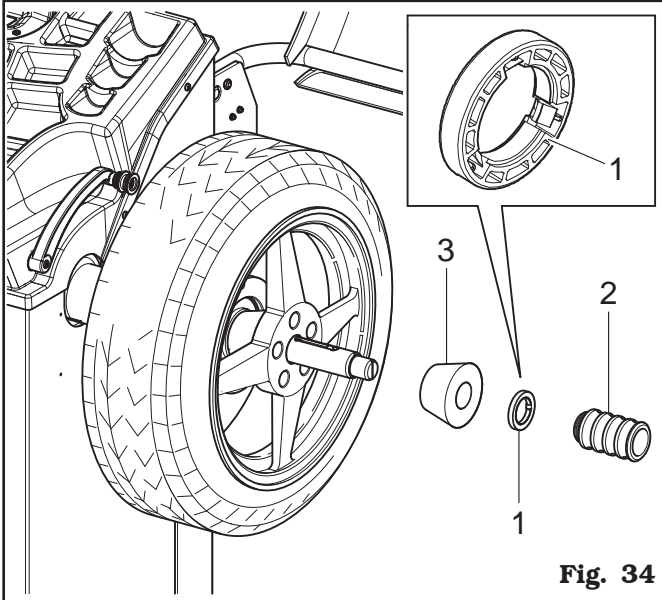

Fig. 34
7. Fit the cone (**Fig. 34 ref. 3**) with the narrowest part turned towards the wheel.
8. Fit the grip-ring (**Fig. 34 ref. 1**) in the bush (**Fig. 34 ref. 2**) and bring everything against the wheel.
THE GRIP-RING (FIG. 34 REF. 1) MUST BE MOUNTED WITH THE TEETH SIDE TOWARDS THE BUSH (FIG. 34 REF. 2).